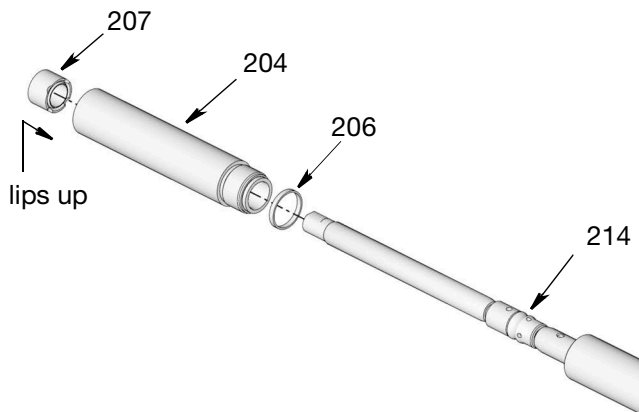

FIG. 42
11. Apply a thin layer grease to seal (206) and install around pump cylinder (204) (FIG. 42).
12. Apply a thin layer of grease to piston seal (214).
13. Thread pump cylinder (204) to spacer cylinder (205). Use a wrench to tighten securely. Torque to 45-55 ft lbs (61-74 N.m).
14. Apply a thin layer of grease to intake seal (207) and install seal with lips facing up inside pump cylinder (204) as shown in FIG. 42.